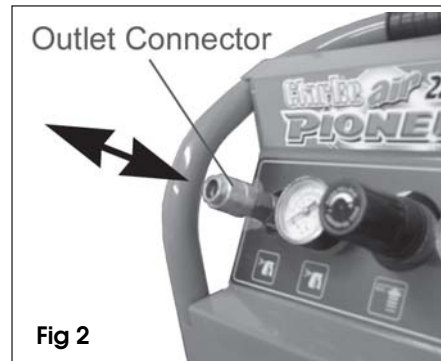

Fig 2
- 1 Connect a suitable air hose to the compressor outlet and the other end to the equipment to be used. Attach the air hose to the outlet connector using the quick-release fitting as shown in Fig 2.